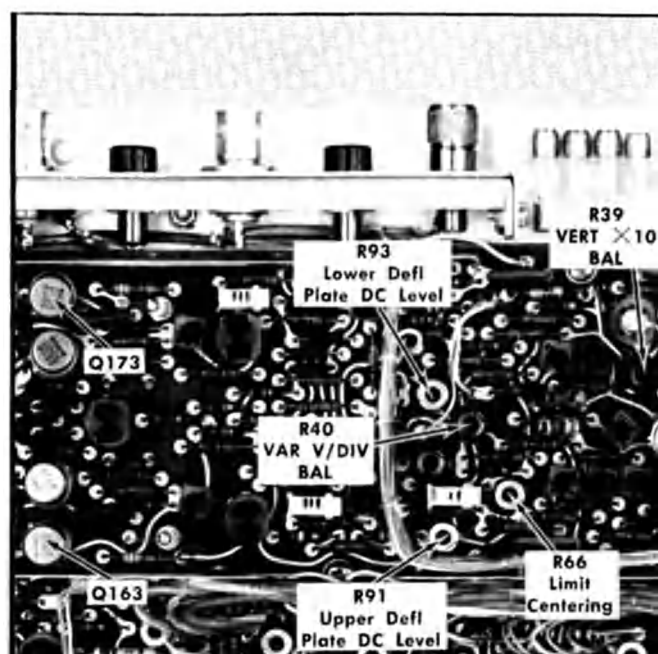

Fig. 6-5. Location of vertical adjustments (Main board).
c. ADJUST—VAR V/DIV BAL adjustment, R40 (see Fig. 6-5), for no trace shift as the VARIABLE VOLTS/DIV control is rotated. If necessary, use the vertical POSITION control to keep the trace on screen during this adjustment.
e. ADJUST—VERT  $\times 10$  BAL adjustment, R39 (see Fig. 6-5), to return the trace to the center horizontal line. Repeat parts b through e for minimum trace shift as the  $\times 10$  VERT GAIN switch is pulled out.
b. Connect the precision DC voltmeter from the collector of Q163 (case of Q163; see Fig. 6-5) to chassis ground.
e. **ADJUST**—Upper Defl Plate DC Level adjustment, R91 (see Fig. 6-5), to center the measured voltage range around +50 volts.
f. Connect the precision DC voltmeter from the collector of Q173 (case of Q173; see Fig. 6-5) to chassis ground.
i. **ADJUST**—Lower Defl Plate DC Level adjustment, R93 (see Fig. 6-5) to center the measured voltage range around +50 volts.
k. Connect the precision DC voltmeter from the collector of Q163 (case of Q163; see Fig. 6-5) to chassis ground.
l. Preadjust the Limit Centering adjustment, R66 (see Fig. 6-5), for a meter reading of +50 volts (perform this adjustment only if proceeding to next step).